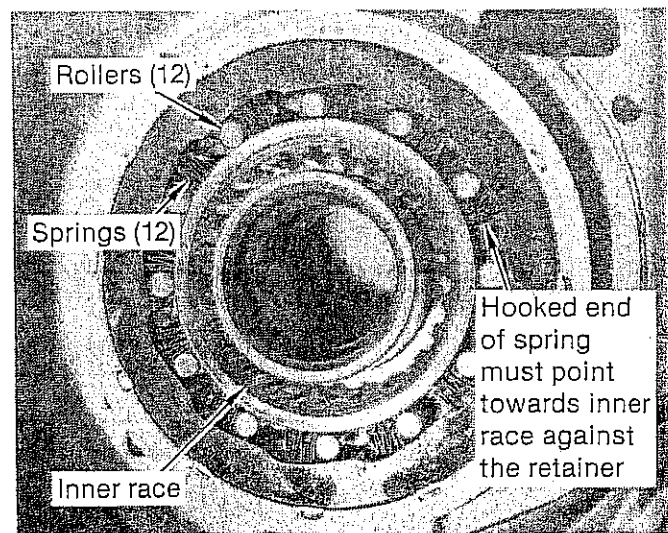

FIGURE 65
**STEP 14.** Position case so bellhousing is up. Install inner race inside cam. Install twelve rollers in position between cam and inner race. The springs should be installed with the hooked end against the retainer and towards the inner race. (See Fig. 65) Turn case over so the bellhousing is down. If you do this carefully, the overrunning clutch won't fall out.